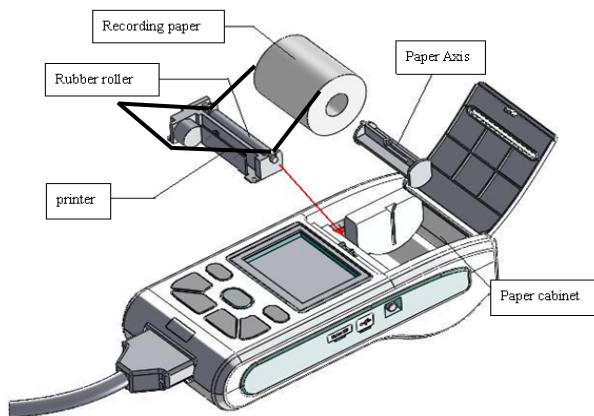

Figure 6-1 Assembly of recording paper
1. As shown in Figure 6-1, press the paper compartment cover, it is automatically bounced, take out the paper axis, insert it into the recording paper as shown in the figure. The paper side with grids should be faced downwards, and then assemble it to proper position in the paper compartment, and press the rubber roller on the recording paper.